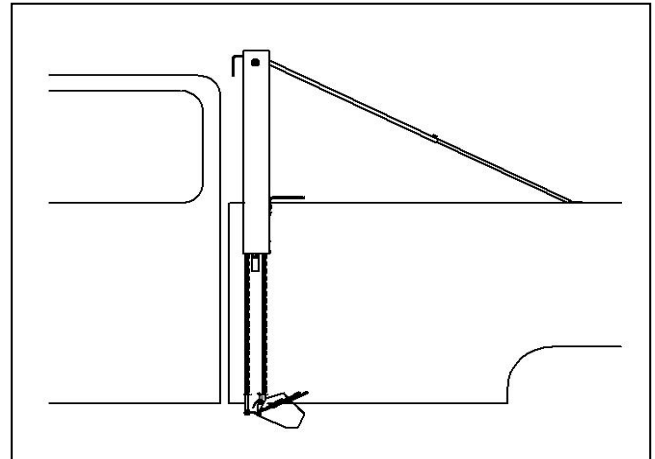

FIGURE 1
2. Adjust soil sampler so that it is vertical from front to back as shown in **Figure 1**.